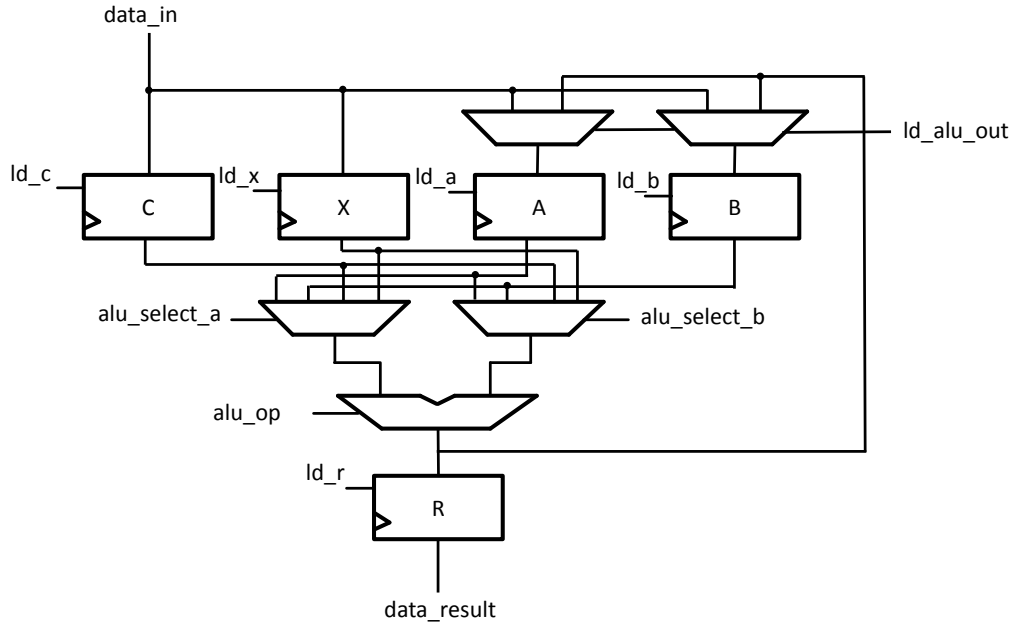

Figure 4: Block diagram of datapath.
Figure 4 shows the block diagram of the datapath you will build. Resets are not shown, but do not forget them. The datapath will carry 8-bit unsigned values. Assume that the input values are small enough to not cause any overflows at any point in the computation, i.e., no results will exceed $2^8 - 1 = 255$. The ALU needs only to perform addition and multiplication, but you could use a variation of the ALU you built previously to have more operations available for solving other equations if you wish to try some things on your own. There are four registers R_x , R_A , R_B and R_C used at the start to store the values of x , A , B and C , respectively. The registers R_A and R_B can be overwritten during the computation. There is one output register, R_R , that captures the output of the ALU and displays the value in binary on the LEDs and in hex on the HEX displays. Two 8-bit-wide, 4-to-1 multiplexers at the inputs to the ALU are used to select which register values are input to the ALU.
- (b) Read the datapath code and identify all the components shown in Figure 4 when looking at the datapath module.
- (c) Identify all the control signals shown in Figure 4 and where they are generated in the control module. You should see that all the control signals are generated by the FSM in the control module.
- (e) Which states do the actual computation? Identify those states and find the sequence of control signals. Observe how the computation is done by using Figure 4 and seeing how that sequence of control signals does the required operation. Can you figure out what is being computed by looking at the FSM?